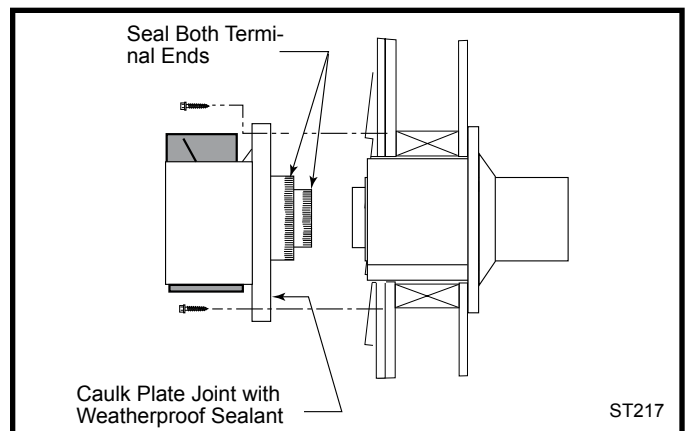

Fig. 29 Install the vent terminal.
- 10. For both Vermont Castings Group and DuraVent Systems:** Install the vent terminal. (Fig. 29) Apply high temperature sealant one inch from the ends of the inner and outer vent termination collars. Guide the inner and outer vent termination collars into the adjacent pipes. Double check that the vent pipes overlap the collars by 2". Fasten the termination to the wall with the screws provided, and caulk the joint with weatherproof sealant.